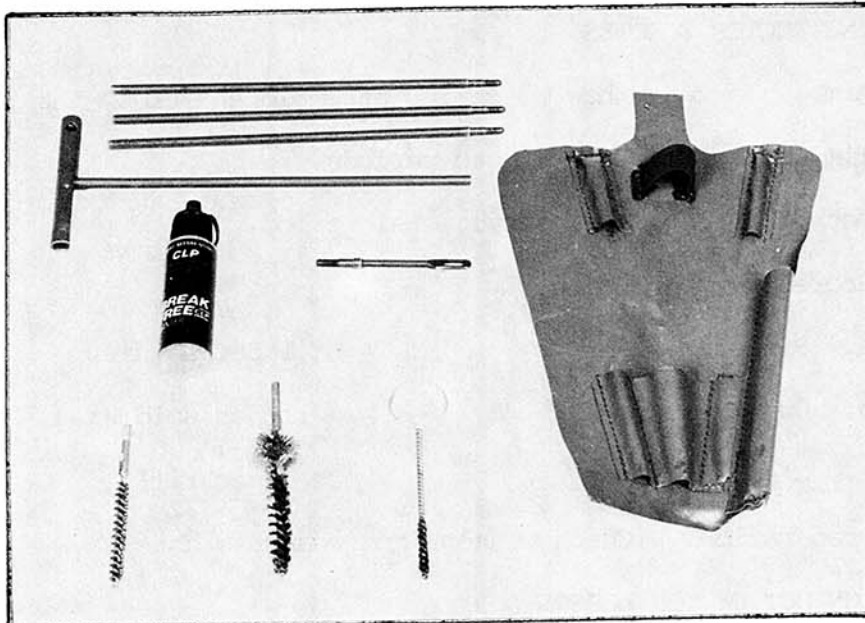

Figure 2-12 Cleaning Kit
13. The Cleaning Kit. See Figure 2-12. The kit is contained in a case in the butt. It consists of: